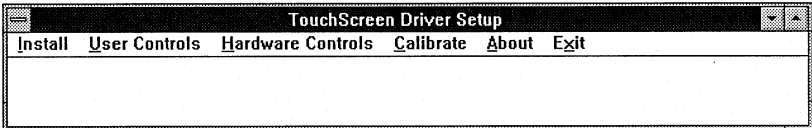
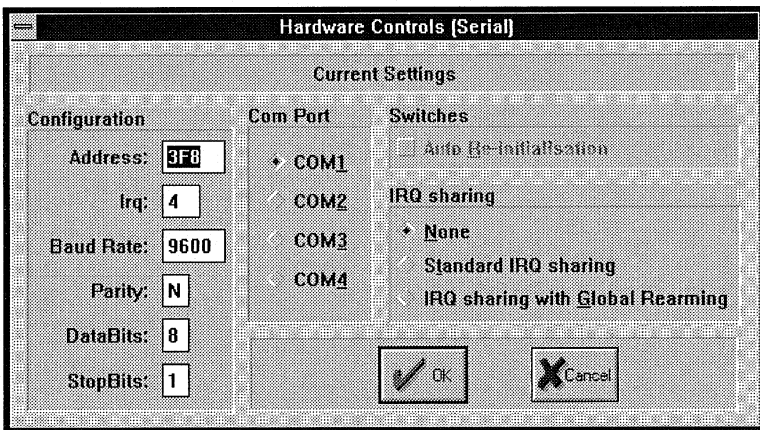

Fig. A-15
fig. A-16
2. Choose **Hardware Controls** from the TTsetup menu (fig. A-15). The Hardware Controls menu will appear (fig. A-16).